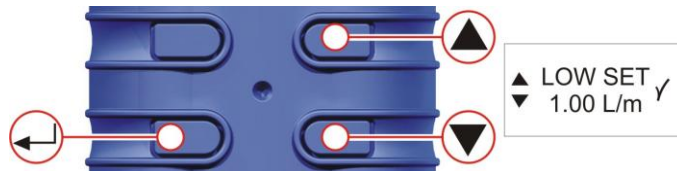

Figure 23 Low Set Screen
**I. ADJUSTMENT OF LOW SET POINT (Fig. 23)**